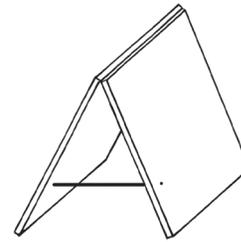

Figure 11
5. Copy Figure 11. Show on the drawing in which direction the corrugations should go to make the strongest supports for your table.